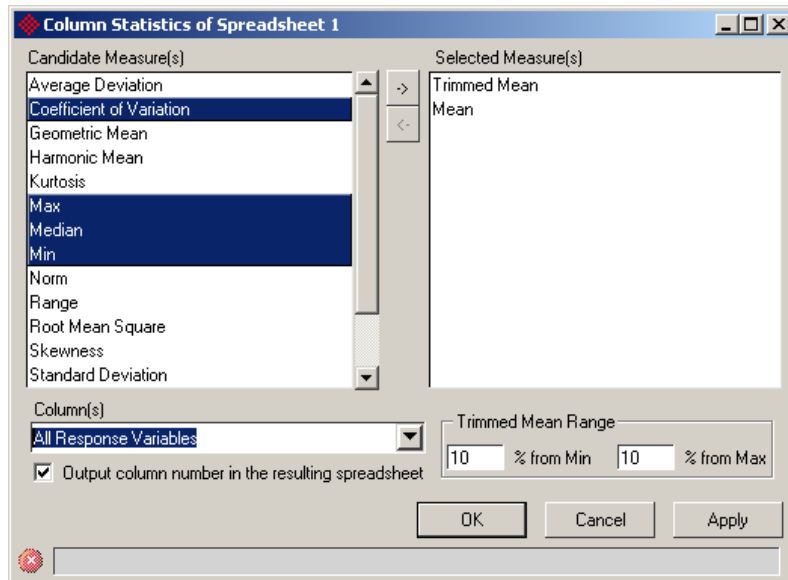

Figure 9. 1: Configuring the Column Statistics dialog
- To compute descriptive statistics on columns, select **Stat > Descriptive > Column Statistics** to invoke the *Column Statistics* dialog (Figure 9. 1)